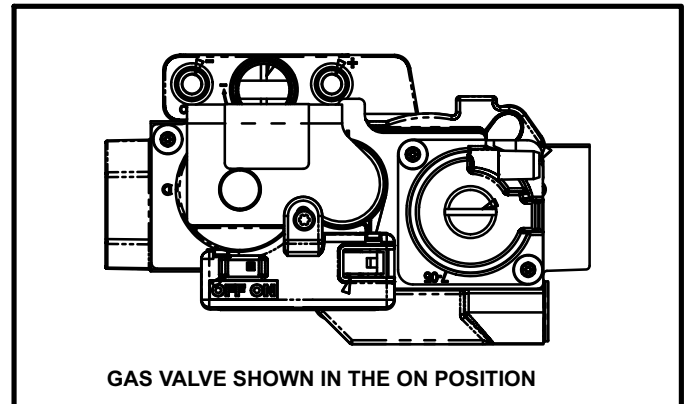

FIGURE 3
### Operating the Gas Valve (Figure 3)
- 6 - Move switch on gas valve to **OFF**. See figure 3.
- 8 - Move switch on gas valve to **ON**. See figure 3.